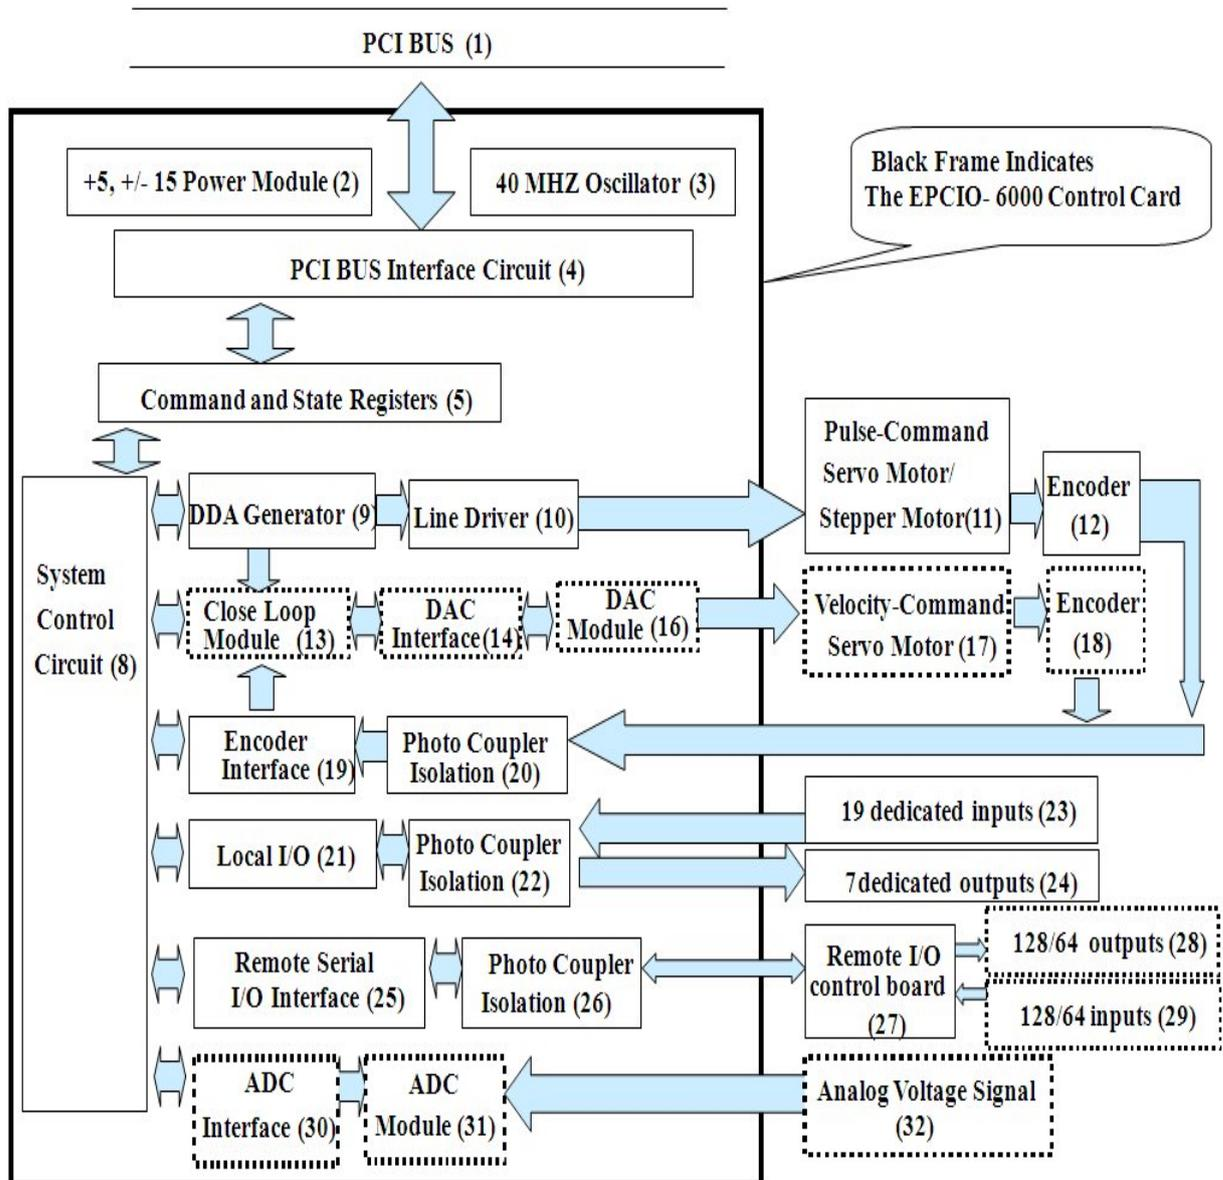

Fig. 1-2
In Fig. 1-2, the EPCIO device driver (or MCCL) sends commands to the EPCIO-6000/6005 card via **PCI BUS (1)**. The **command and state register (5)** and **system control circuit (8)** will decode commands and enable the **DDA generator (9)** to send out pulses smoothly (A/B Phase, CW/CCW, or Pulse/Direction format). Then the pulses are differentially amplified by **line driver (10)** and sent to the **pulse-command servo motor or stepper motor (11)**. The **encoder interface (19)** with the **photo coupler isolator (20)** is for receiving the motor **encoder (12)** signals.
In Fig. 1-2, if a closed loop control is configured, the EPCIO ASIC will decode the motion position commands and trigger the **DDA generator (9)** to send out pulses to the **closed loop module (13)** for calculation. At the same time, the feedback signal of the motor **encoder (18)** (differential signal) comes into the **closed loop module (13)** for calculation. The **closed loop module (13)** uses P control algorithm to produce velocity command for driving motor via the **DAC interface (14)** and **DAC module (16)**. The voltage commands are produced by multiplying gain on the difference of pulses sent by the DDA and the encoder responds to the pulses. Finally, a voltage command (-10V ~ +10V) is sent to the **velocity-command servo motor (17)** for velocity control.
Refer to Fig.1-2. The PC driver gives a command to the ASIC on the EPCIO-6000/6005 through the **PCI BUS (1)**. According to the user's commands, the ASIC can read or write data to the **local I/O (21)**. The output signals go through **photo coupler isolation (22)** and then are amplified by a Darlington circuit. The inputs are also entered to the **local I/O (21)** through a **photo coupler isolation (22)**.
Refer to Fig.1-2. The remote digital I/O is designed with wire-saving technology patented by MSL. It uses a serial communication cable to remotely control the **remote I/O control board (27)** via the **remote serial I/O interface (25)**. The maximum capacity is up to **128 outputs (28)** and **128 inputs (29)**.
In Fig.1-2, the 8 **analog voltage signals (32)** (selecting -5V~5V for the bipolar mode or 0V ~10V for the unipolar mode) are connected to the **ADC module (31)** for conversion and then the EPCIO-6000 reads the ADC value (12 bit resolution) through the **ADC interface (30)**.
Refer to the system block diagram Fig.1-2, the EPCIO-6000 sends a command to the **DAC interface (14)** through the **system control circuit (8)**, and the **DAC module (16)** translates the command into an analog voltage output. The motion card has been adjusted, so that the voltage offsets are close to 0V before the card is shipped. Therefore the DAC does not need to modify the voltage offsets when the user independently uses a DAC converter.